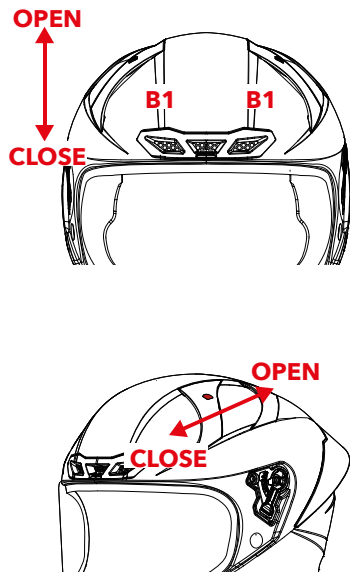

FIGURE 6
FRONT SIDE AIR INTAKE – B1 – Figure 6
- Figure 6: move the cursor upwards to open the air intakes/Move the cursor downwards to close the air intakes.